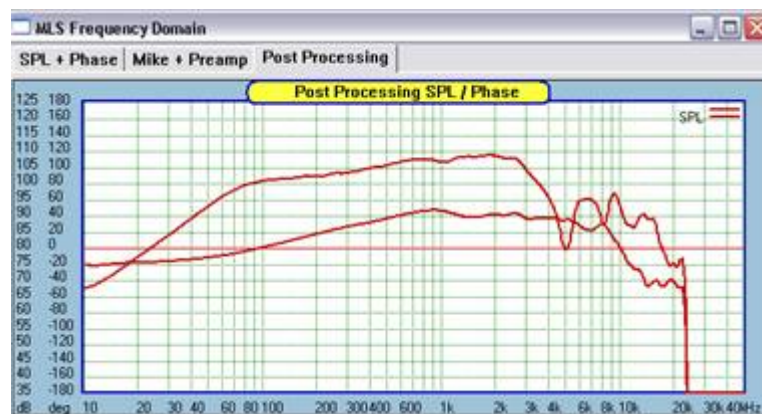

Figure 46. Diffraction added to near field response.
- Since the near field data is saved in buffer 2, Add Diffraction to Buffer 2 is executed yielding the response shown in Figure 46. (You must uncheck and recheck the *Show Curves 2* box to display the result.)